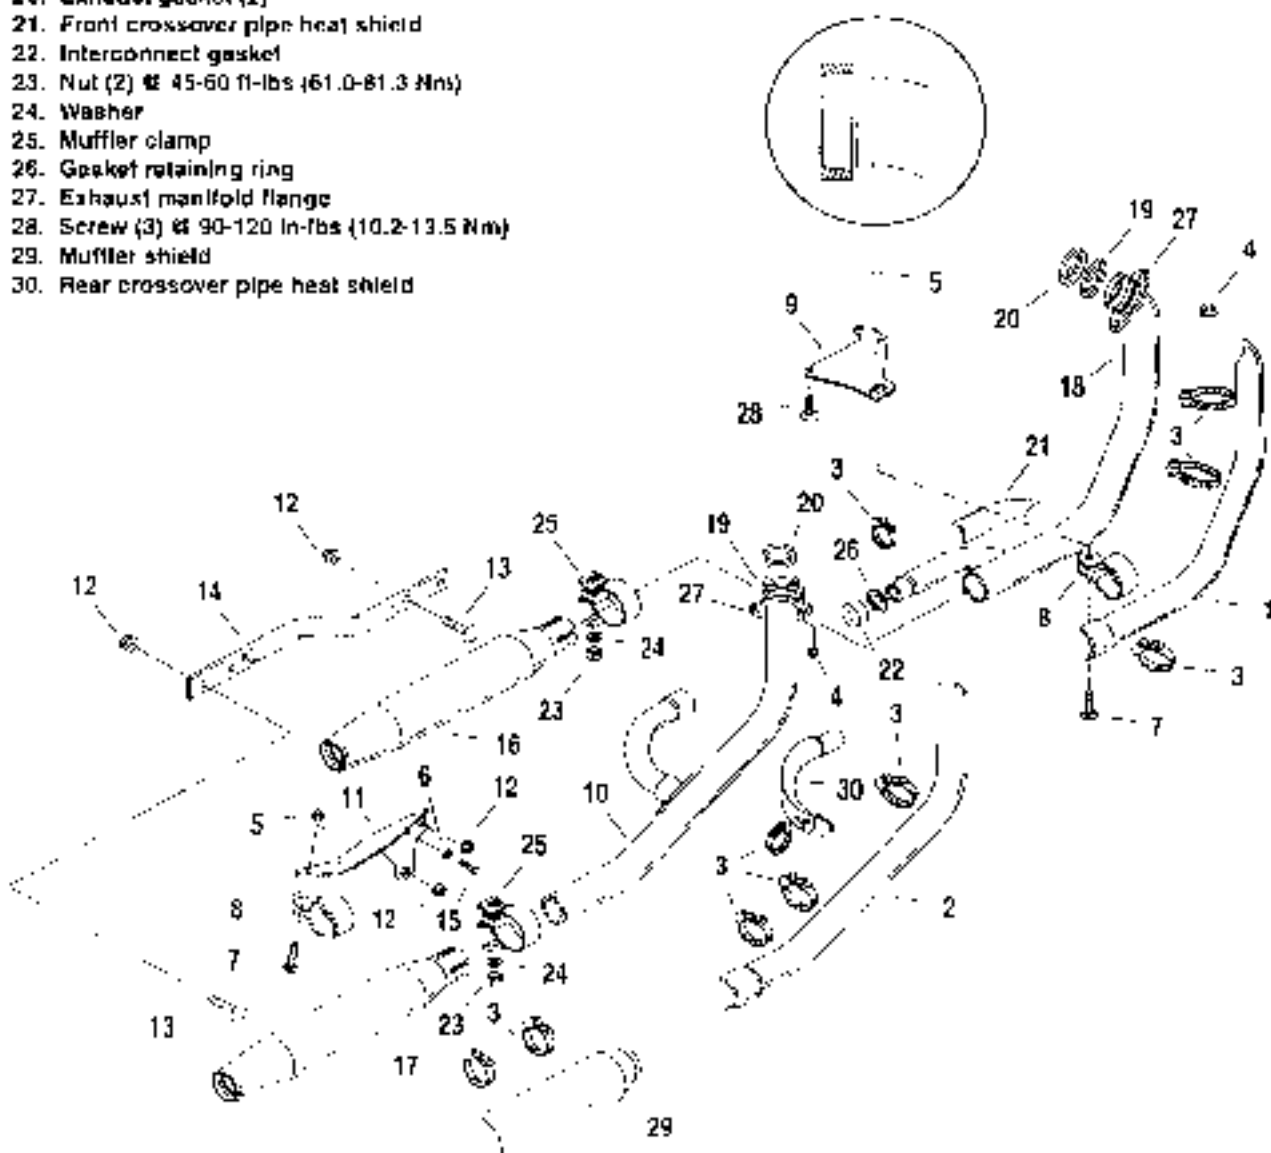

Figure 4-16. Exhaust System
1. See Figure 4-16. Loosen or remove heat shields (1, 2) by opening worm drive clamps (3).
2. Remove locknuts (4) from front and rear cylinder head exhaust studs.
3. Remove nut (5) and bolt (7) attaching front pipe clamp (6) to front exhaust bracket (9).
4. Remove bolt (7) and nut (5) attaching rear exhaust pipe clamp (8) to transmission side cover support bracket (11).
1. See Figure 4-16. Remove muffler support tube nuts (12) from bolts (13). Remove muffler support bracket (14).
2. Loosen nuts (23) on muffler clamps (25) to exhaust pipes. Remove mufflers.
3. Free front exhaust pipe (18) from rear exhaust pipe (10) by twisting and separating at crossover pipe.
4. Examine retaining rings (19) and gaskets (20) in cylinder head exhaust ports. Replace if necessary.
6. Remove retaining ring (26) and gasket (27) from crossover pipe bell on rear exhaust pipe (10). Connect rear exhaust pipe to front exhaust pipe (18) at crossover pipe.
1. See Figure 4-16. If crossover pipe(s) heat shield(s) (21-30) were removed, install now.
2. Install new gasket (27) and retaining ring (26) into crossover pipe bell on rear exhaust pipe (10). Connect rear exhaust pipe to front exhaust pipe (18) at crossover pipe.
See inset in figure 4-16. Replacement cylinder head exhaust gaskets (20) are tapered internally. Be sure the thin end goes over the exhaust pipe. Also check condition of retaining ring (19) before installation.
1. Position ends of exhaust pipes into front and rear cylinder head exhaust ports with holes in flanges (27) over cylinder head exhaust studs. Loosely thread on flange locknuts (4).
2. Position front pipe clamp (6) on front exhaust bracket (9). Install nut (5) and bolt (7).
3. Position rear exhaust pipe clamp on transmission side cover support bracket (11). Install bolt and nut. Do not tighten nut and bolt at this time.
5. Tighten nuts (4) at front cylinder studs as follows:
6. Tighten nuts (4) at rear cylinder studs as follows: